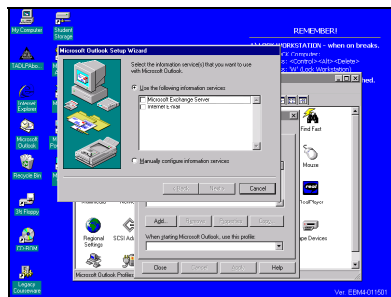

FIGURE II.4
- 4) The Microsoft outlook setup wizard window will open. (see figure II.4)